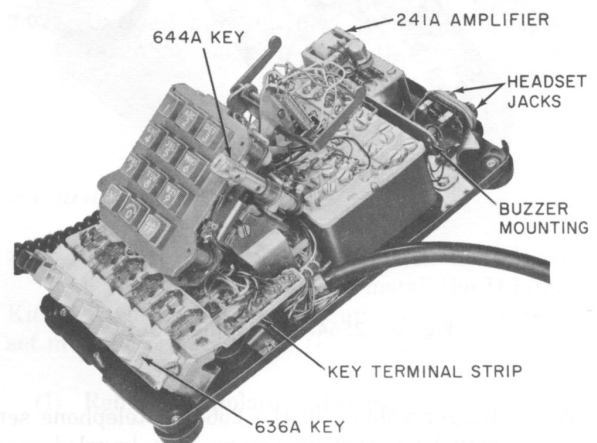
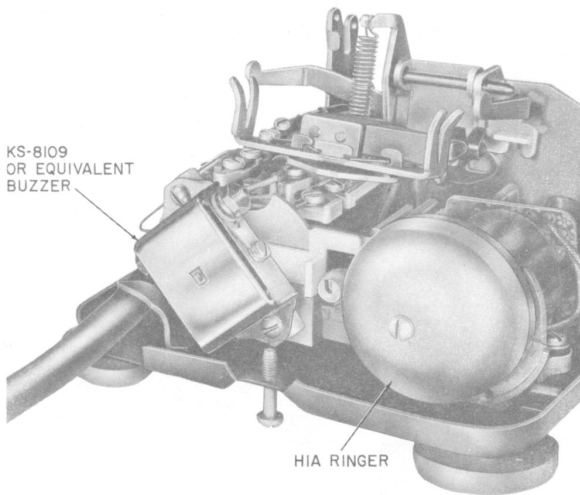

Fig. 2—2563HB Telephone Set, Interior
Fig. 10—KS-8109 Buzzer Mounting
3.04 A KS-8109L2 or equivalent buzzer may be mounted to the ringer bracket of the 2564HL and 2568HAA telephone sets using hardware provided (Fig. 10). This buzzer may also be used with the 2563HB telephone set, mounting it on the jack and amplifier mounting bracket (Fig. 2) and securing it with two insulating screws and washers.